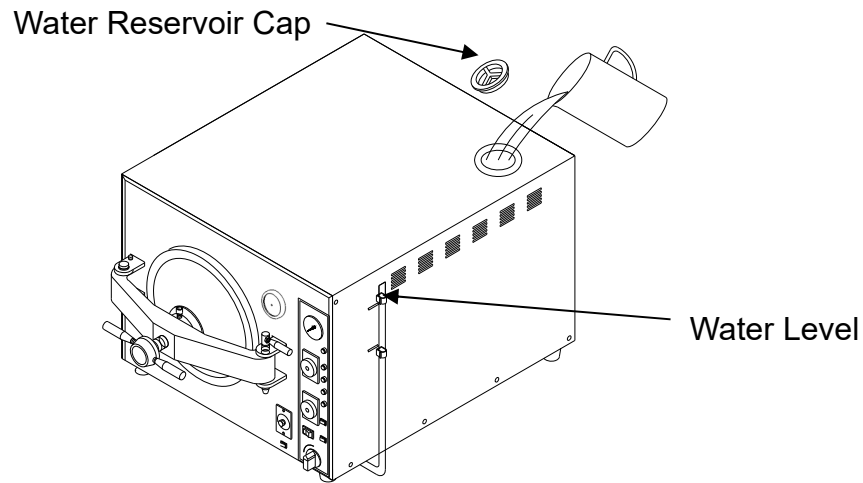

Figure 3
- A. Open the water reservoir cap; pour distilled water into the water reservoir as Figure 3.